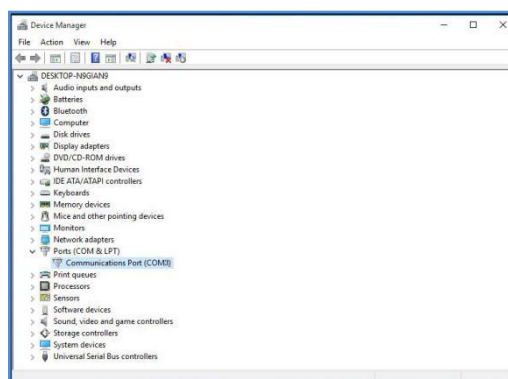

Figure 3-9-11
- Step 1: Right-click Computer → Properties → Device Manager → Observe the serial port assigned by the computer. The computer serial port assignment interface is shown as Figure 3-9-11.